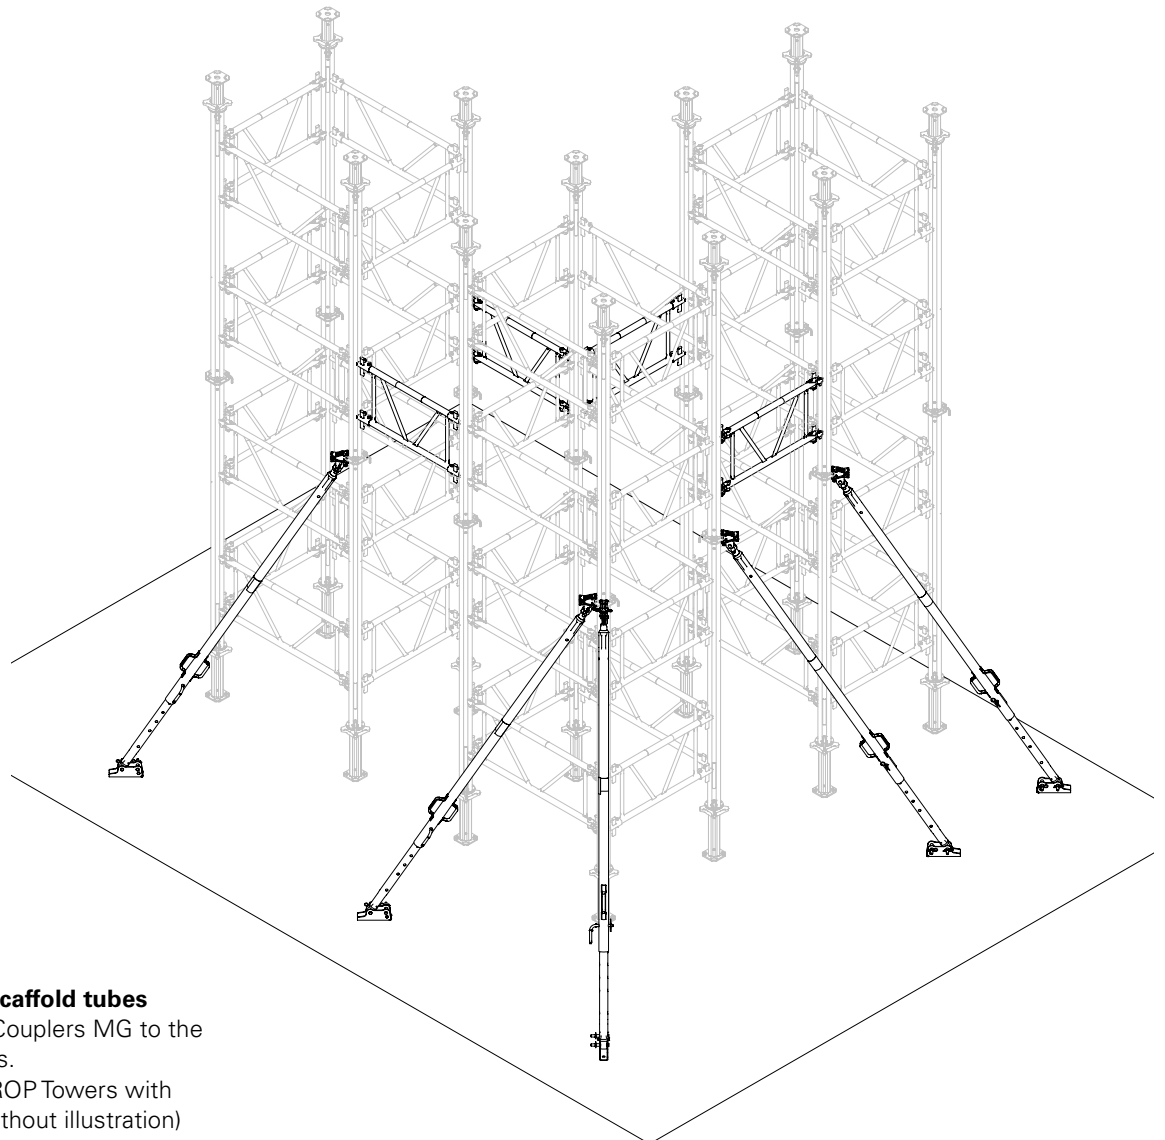

Fig. A5.03
2. Install Frame MRK between the towers. (Fig. A5.03)